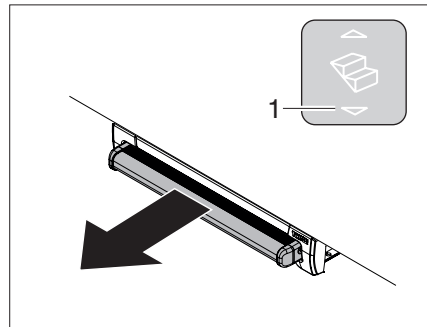

Fig. 3 Extending the entrance step
- Press the rocker switch (Fig. 3,1) down until the entrance step has extended completely.